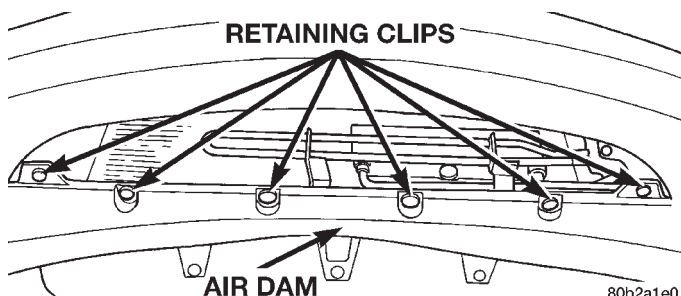

Fig. 14 Air Dam Retaining Clips
(6) Remove the 6 clips (Fig. 14) mounting the air dam to the radiator lower support.